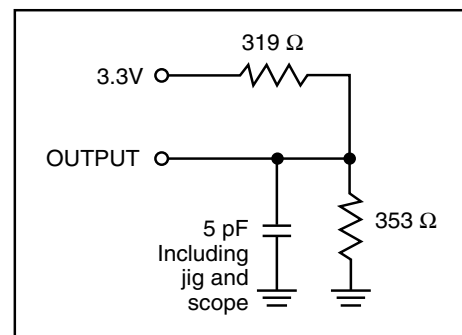

Figure 2
2. Tested with the load in Figure 2. Transition is measured ± 200 mV from steady-state voltage. Not 100% tested.